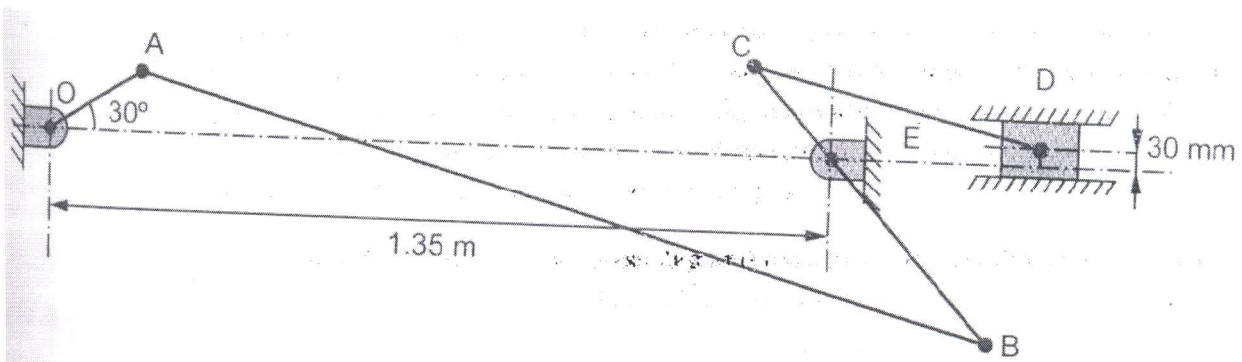

Fig.1 (Q 3 b)
b) A mechanism as shown in **fig.1**, has the following dimensions: OA = 200 mm, AB = 1.5 m, BC = 600 mm, CD = 500 mm, & BE = 400 mm. Locate all the possible instantaneous centres by inspection, if crank OA rotates uniformly at 400 rpm anticlockwise, find i) velocity of B,C & D & ii) angular velocities of AB, BC & CD. [12]